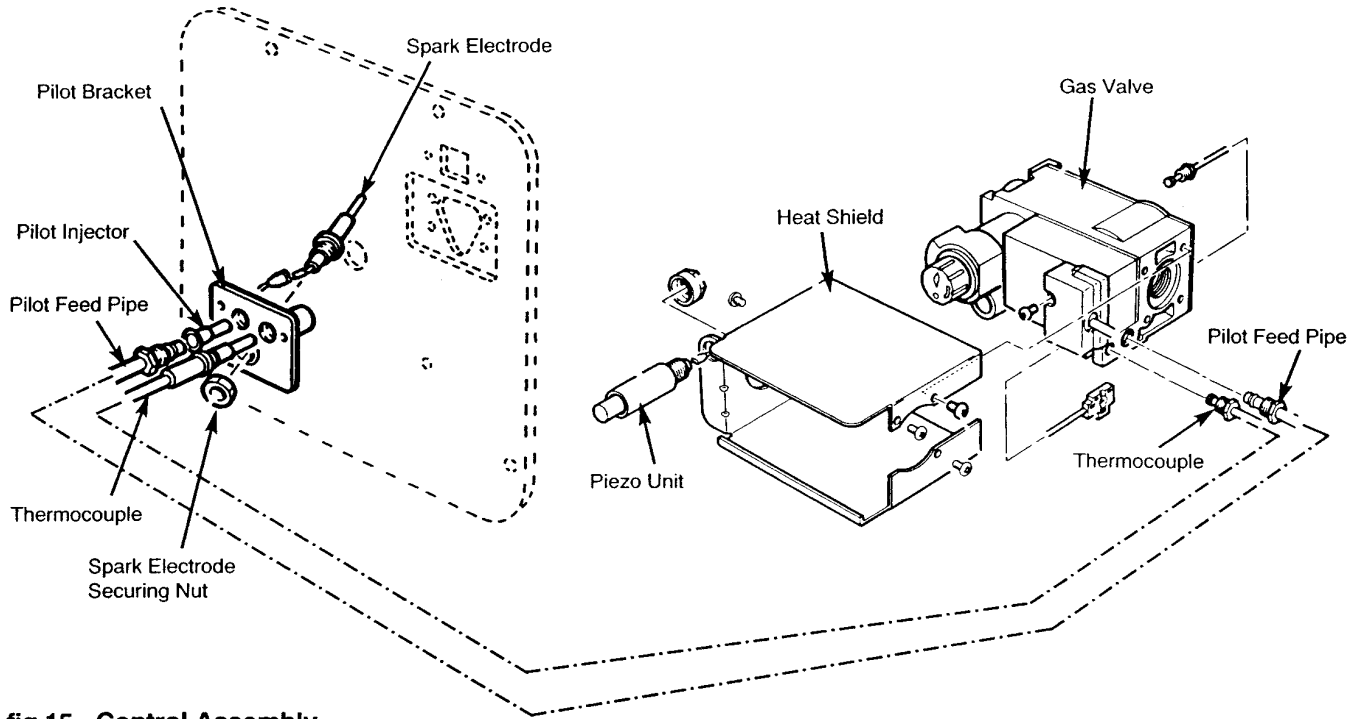

fig 15 - Control Assembly
- 15) Clean the pilot as follows: Unscrew the pilot tubing nuts at both ends and remove the pilot tube. Remove and clean the pilot injector and clean the pilot shroud (Fig 15).
- 3) Release the thermocouple nut at the side of the gas valve (Fig. 15).
### **GAS VALVE (Fig 15)**
### **PIEZO UNIT (Fig 15)**
### **SPARK ELECTRODE (Fig 15)**